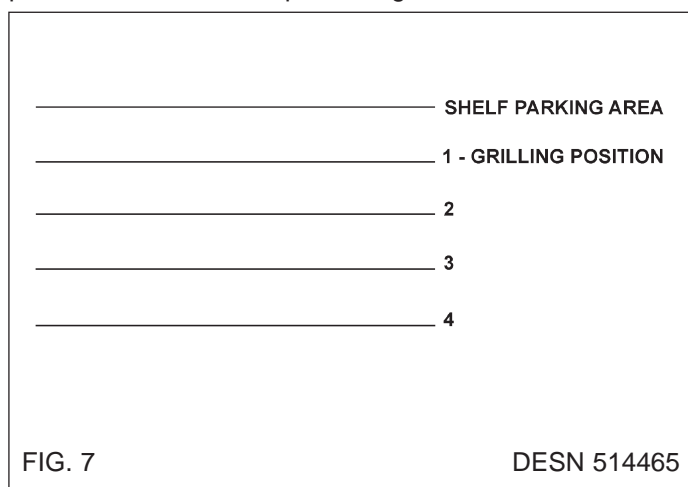

FIG. 7
This oven is hotter towards the top than the bottom, and has five shelf positions (See Fig. 7) The very top runners are used as a shelf parking area.
- 3. Oven grilling** - The top of the oven is where the grilling takes place. Turn the oven up to HIGH and the heat radiating from the oven roof seals and cooks the food. Arrange the food on the grill rack in the meat tin and place on the shelf (See Fig. 7).
Shelf positions are counted downwards - See Fig. 7 (Page 7)